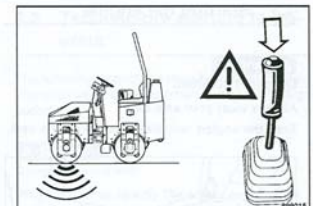

Fig. 26
- If the vibration starts to run after starting the engine, press the vibration push button (Fig. 26) immediately to switch the vibration off.